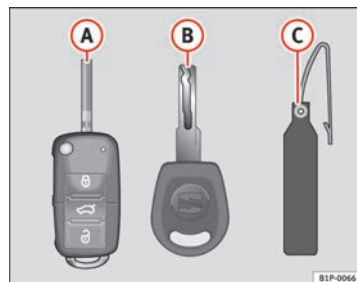

Fig. 63 Set of keys
- one remote control key ⇒ Fig. 63 (A) with folding key bit,
- a key without remote control (B),
- a plastic key tab* (C).